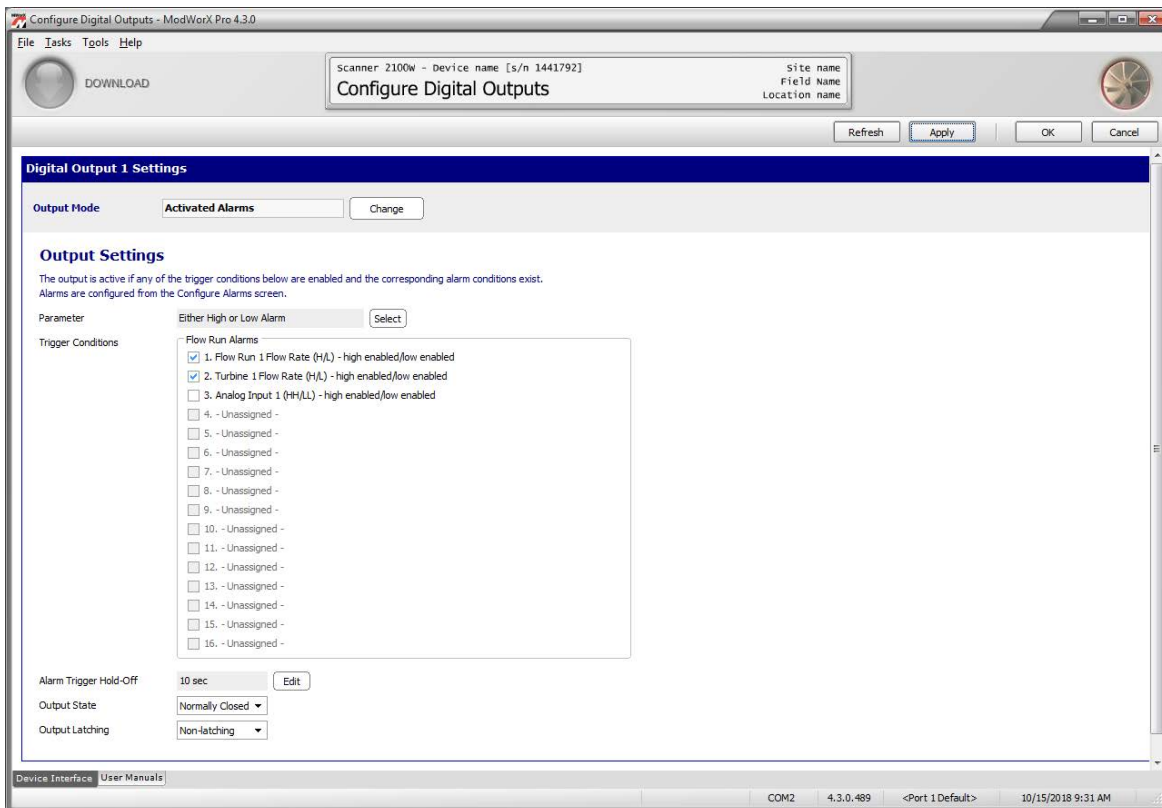

Figure 7.11
- Click **OK** to save the setting and return to the Configure Digital Outputs screen (Figure 7.11).
- If one of the top three selections was chosen in step 3, only parameters that are configured as alarms will appear in the Trigger Conditions field (Figure 7.11, page 92). To add a parameter, configure a new alarm in the Configure Alarms menu. See Archive Parameter Setup, page 41, for more details.